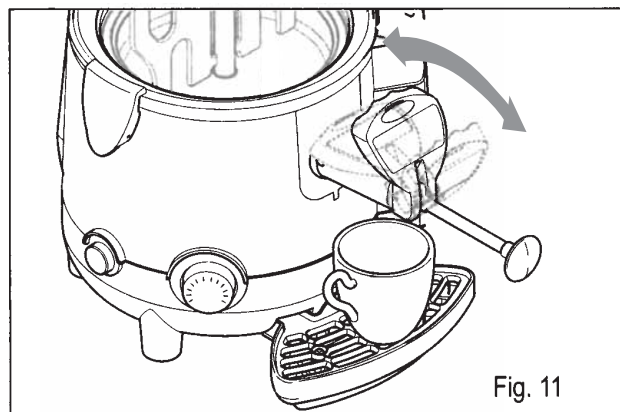

Fig. 11
- use the lever on the tap (the product is dispensed when the lever is pressed or pulled) until the required amount of product has been poured inside the cup; Fig.11